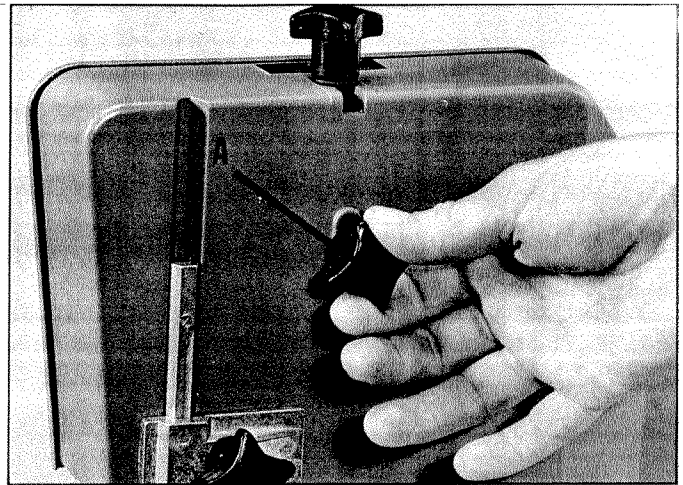

Fig. 8
1. Loosen blade tension lock knob (A) Fig. 8, 1/4 of a turn by turning the knob counter-clockwise.
4. After correct tension is obtained tighten blade tension lock knob (A) Fig. 8.